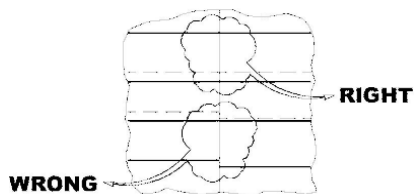

Figure 2
- b. Be sure that the bottom edge of two courses line up. If not, one side or the other will have a gap when the corner is installed. See Figure 2.